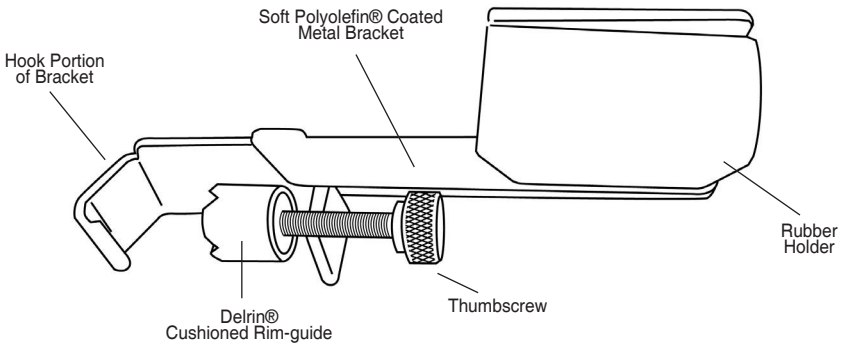

Figure 6-A. Elements of the RM1 RimMount™
The RM1 RimMount™ is designed for metal drum rims, and will not work on wooden drum rims. Attaching the RimMount to the drum rim is quite easy. While reading this section, please refer to Figure 6-A, which shows the various elements of the RimMount™. First, loosen the thumbscrew so there is more than enough space for the Delrin® cushioned rim-guide to clear the bottom of the drum rim. Then determine where on the drum rim you want to position the microphone and place the top “hook portion” of the RimMount bracket over the desired place on the drum rim.
Referring to Figure 6-B, notice that on the Delrin® cushioned rim-guide there are two sets of grooves. One groove is in the “center” of the rim-guide (1), while the other groove (2 & 3) is “off center” (or closer to the edge of the rim-guide). These two sets of grooves provide you with “three” mounting options: (A) using the “off center” rim-guide groove will place it closest to the drum shell, (B) or rotating the “off center” groove 180 degrees will place the rim-guide furthest away from the drum shell, and (C) the “center” groove will allow placement in-between the positions (A) and (B).